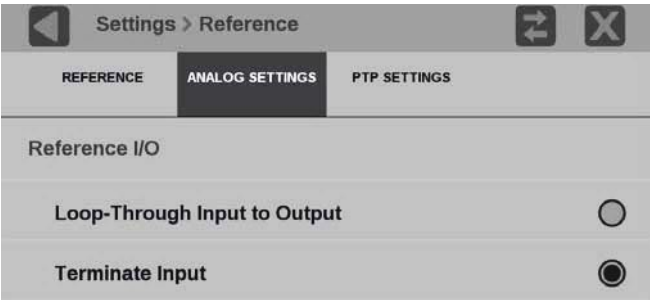

Figure 66: Analog reference settings configuration
2. Select **Reference** to open the Reference submenu and select the **Analog Ref Setting** submenu. (See Figure 66.)